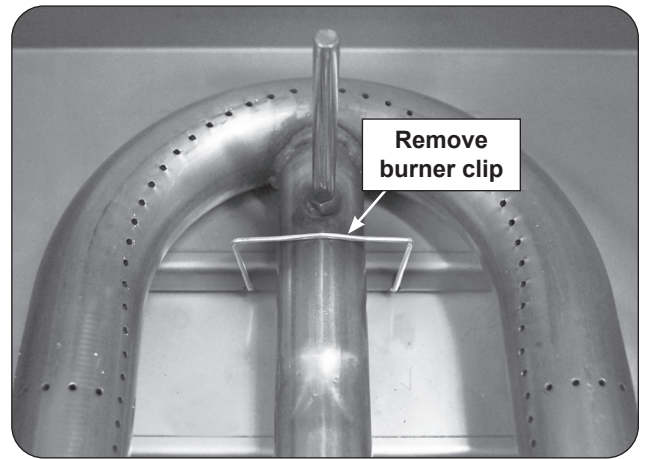

Fig. 37-1 Main burner removal
2. Locate the burner clip (located over the rear center tube of the burner) and slightly pinch and remove the clip from the burner support. See Fig. 37-1.